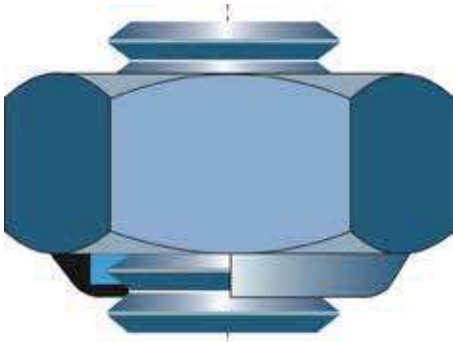

Fig.4 - Şekil 4
- after the prestressing force decrease to zero. Either the free turning of the nut continues until complete disintegration of joint or protection against disintegration, as DIN 985 (Fig. 4) or alternatively cotter pin, stops the next turn of the nut. In the latter case, favorable conditions for fatigue fracture are created.